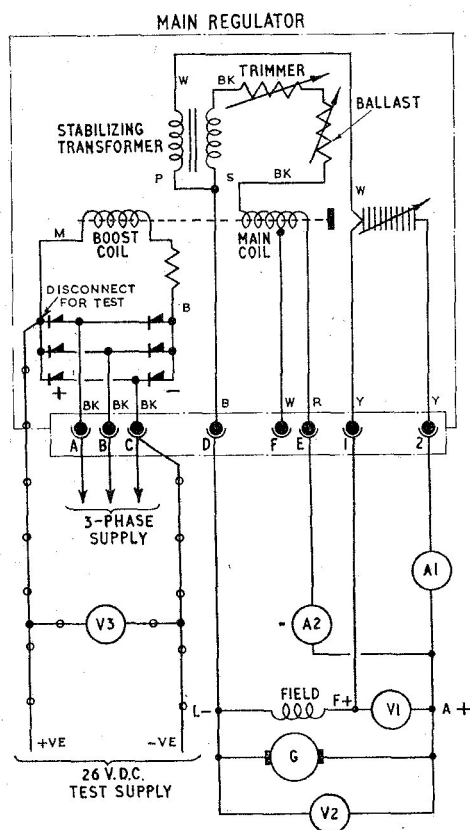

Fig. 1. Test circuit diagram
3. Connect the regulator Type 50/42909E to the test circuit as shown in Fig. 1. This circuit shows the regulator connected to a generator of the Type 515 series; but if this generator is not available any generator which is used with this regulator may be substituted.